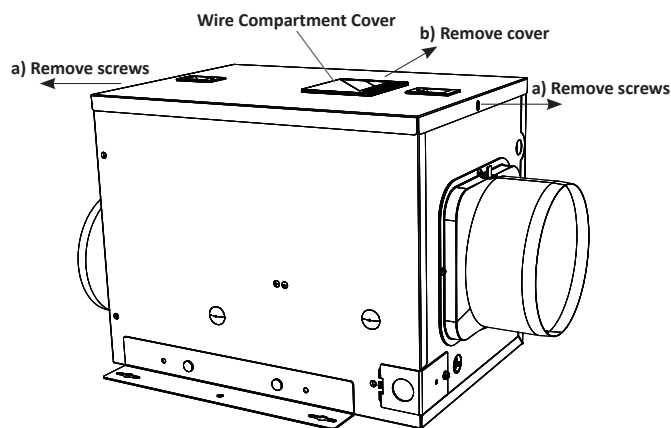
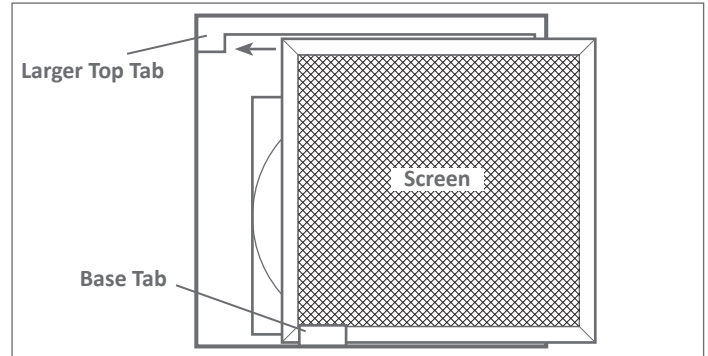

Figure 7 - Control Compartment Cover
Figure 10 - Installing the insect screen
2. Remove the screws securing the control compartment cover (a) and remove the cover (b) to gain access (Figure 7). Locate the speed control panel inside the unit.
1. Remove the two screws securing the control compartment cover and remove the cover to gain access to the controls and filter area (Figure 7).
1. If, when the ventilator is unpacked, the insect screen is not in place, remove the Control Compartment cover (Figure 7) and insert the screen behind the tab at the base of the unit. Make sure the wider side of the screen is running side to side inside the unit (Figure 10).
2. Slide the screen to the side of the cabinet with the larger top tab making sure the screen fits behind the tab (Figure 10).